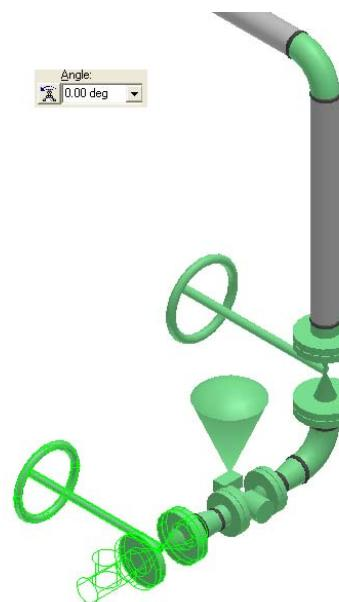

Figure 81: Tee and Mating Flanges in the Graphic View
35. Select the **Tee** option in the **Type** drop-down list and key in **0 deg** in the **Angle** drop-down list on the **Insert Component** ribbon to rotate the tee so that port 3 is pointing upwards, as shown in Figure 81.